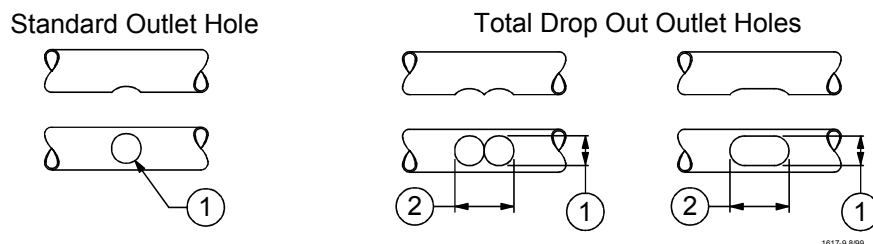

Figure 2. Cutting the Outlet Hole in the Fill System Pipe
1. Determine the location of the Outlet Assembly and drill or cut the desired outlet hole as shown in **Figure 2**.